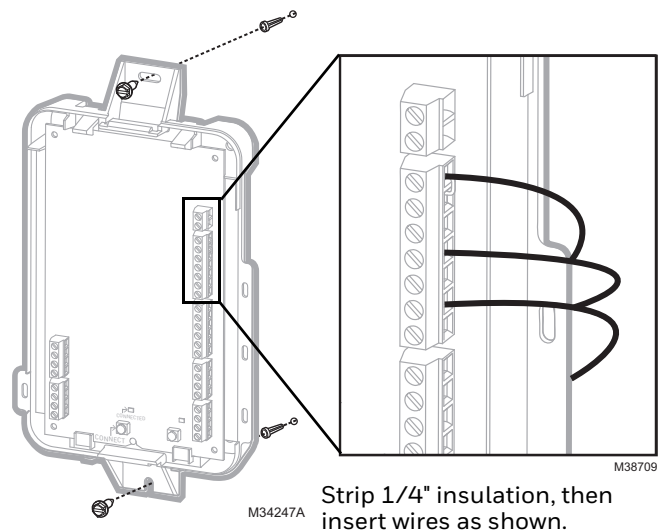

Fig. 34.
2. To wire the EIM, strip 1/4" insulation, then insert wires (see Fig. 34. For wiring diagrams, see "EIM Wiring" on following pages.)